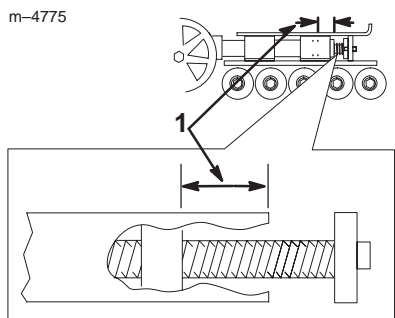

Figure 4
4. Turn the tensioning screw counter-clockwise until the distance between the tension nut and the back of the tension tube (Fig. 4) is 2-3/4 in. (7 cm.).